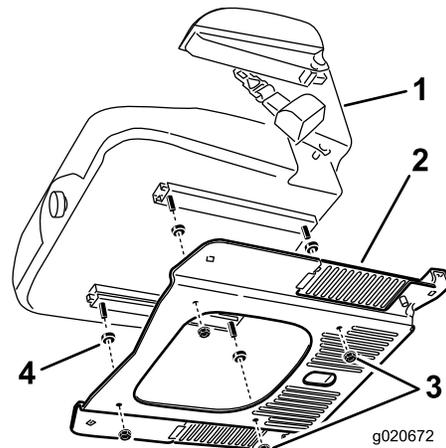

Figure 12
2. Install a spacer (Figure 12).
3. Secure the seat to the seat frame with 4 flange nuts (5/16 inch) (Figure 12)